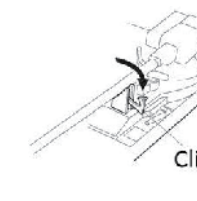

Fig 2
7. Place a record onto the turntable spindle and unclip the tone arm (fig. 2)